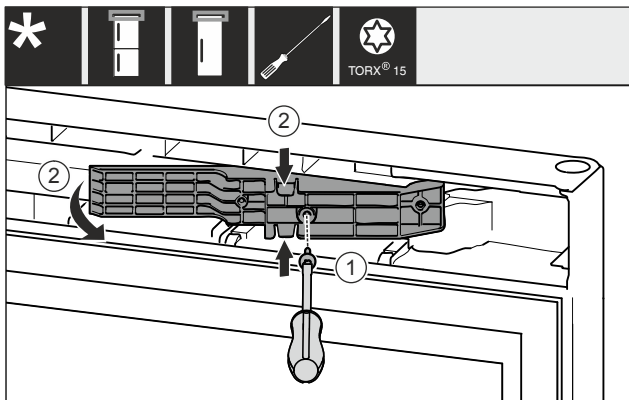

Fig. 10 *
- Loosen the screws with a T15 screwdriver. Fig. 10 (1)*
- Pull out the adaptor. Fig. 10 (2)*